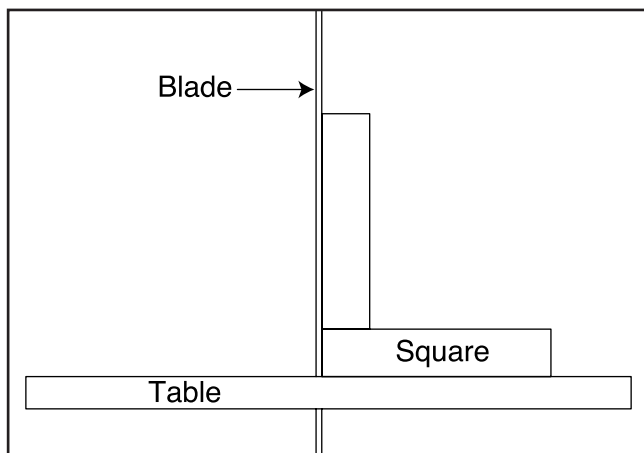

Figure 32. Squaring table to blade.
1. Loosen the two plastic knobs and check-nut that secure the positive stop adjusting bolt shown in **Figure 32**.